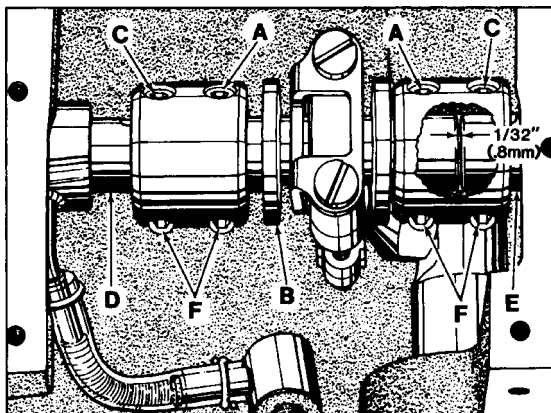

Fig 18
As viewed looking down from rear of machine, spot screws (A, Fig. 18) in the couplings must align with the spots in the looper drive crank (B) and set screws (C) must align with the flats on crankshaft (D) and mainshaft (E).
Looper drive crank (B, Fig. 18) must be positioned laterally with 1/32 inch (.8mm) clearance between it and mainshaft (E) as shown in Fig. 18. Once these settings are made, it is very important that the couplings are tightened in the following sequence for best performance.